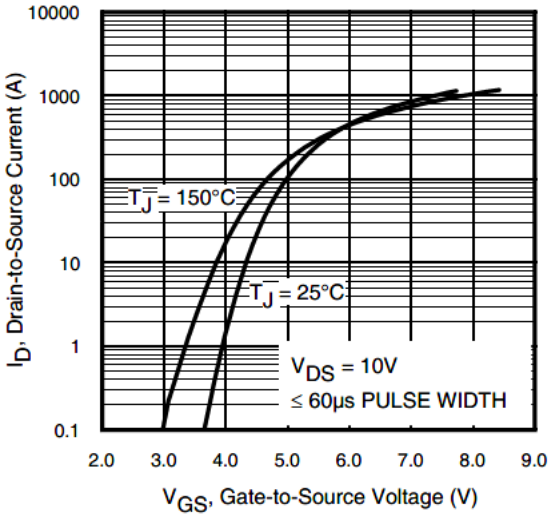
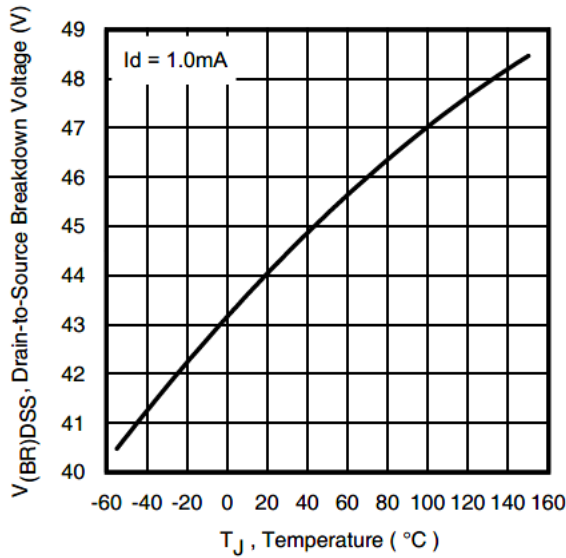

Fig 5. Typical Transfer Characteristics
Fig 11. Drain-to-Source Breakdown Voltage
| C _{iss} | Input Capacitance | — | 6560 | — | pF | V _{GS} = 0V V _{DS} = 25V f = 1.0MHz, See Fig.5 V _{GS} = 0V, V _{DS} = 0V to 32V ^⑦ See Fig.11 V _{GS} = 0V, V _{DS} = 0V to 32V ^⑥ |